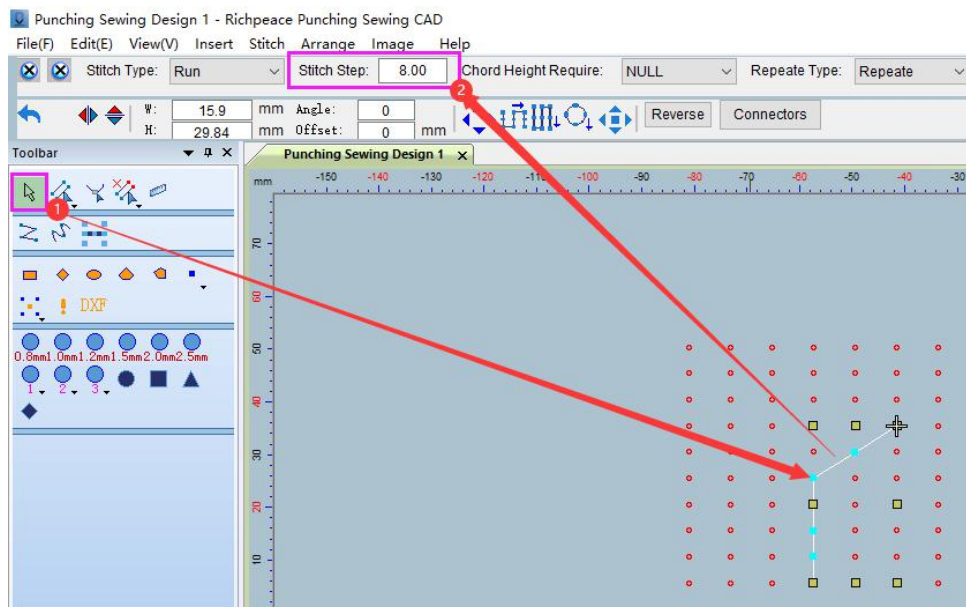

图 1 Picture1
Step 5: Use the selection tool to select the stitches and modify the stitch length (Figure 1). After modification, click on the blank space to complete the plate making (Figure 2).